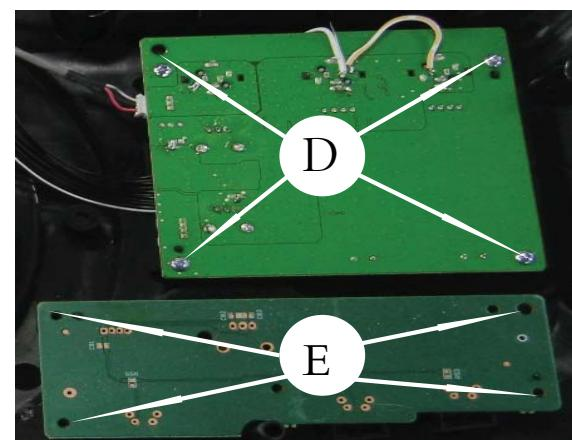

Figure6
- 1) Loosen 4screw "D" detach MIC Board & loosen 5 screw "E" detach KEY Board as shown in figure6